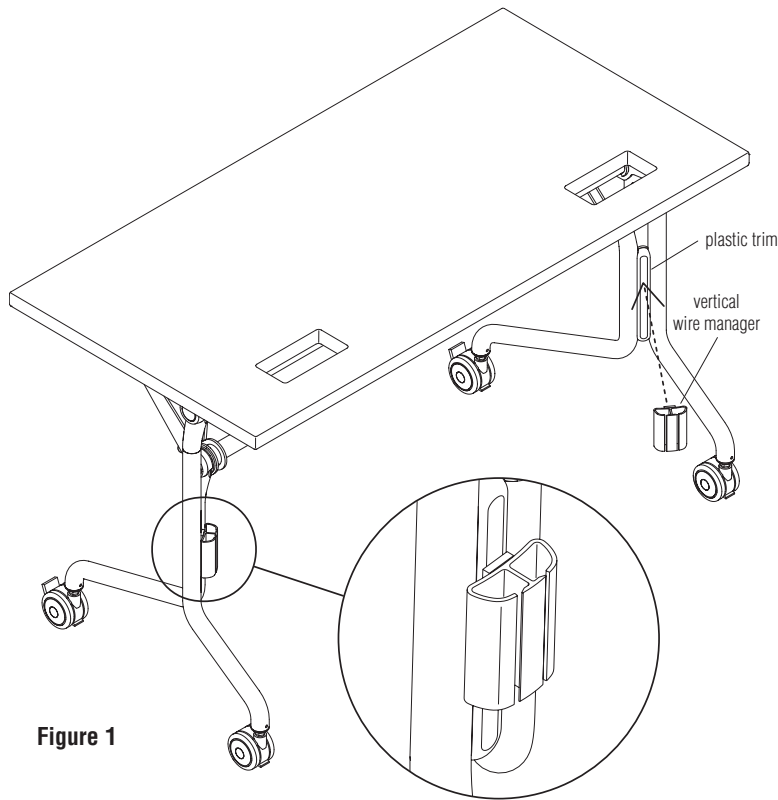

Figure 1
2. Locate the plastic trim at the rear of the table leg. Position the wire manager in the center of the leg trim and apply firm pressure to allow adhesive to set. Repeat for other leg if desired (Figure 1).